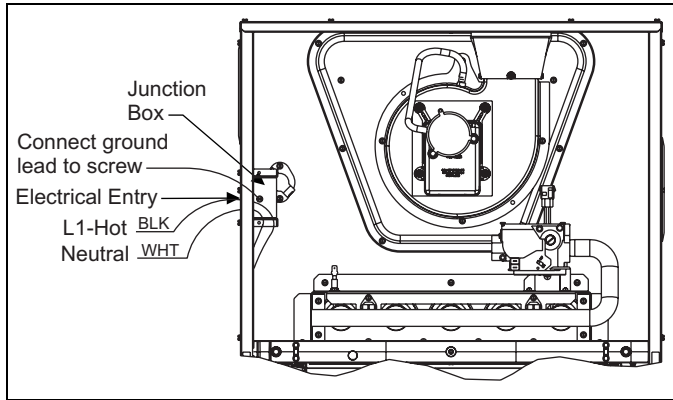

FIGURE 16: Electrical Wiring
2. Remove the screws retaining the wiring box cover. Route the power wiring through the opening in the unit into the junction box with a conduit connector or other proper connection. In the junction box there will be 3 wires, a Black Wire, a White Wire. Connect the power supply as shown on the unit-wiring label on the inside of the blower compartment door or the wiring schematic in this section. The black furnace lead must be connected to the L1 (hot) wire from the power supply. The white furnace screw must be connected to neutral. Connect the power supply ground to the green screw (equipment ground) An alternate wiring method is to use a field provided 2" (5.1 cm) x 4" (10.1 cm) box and cover on the outside of the furnace. Route the furnace leads into the box using a protective bushing where the wires pass through the furnace panel. After making the wiring connections replace the wiring box cover and screws. Refer to Figure 16.
3. The furnace's control system requires correct polarity of the power supply and a proper ground connection. Refer to Figure 16.